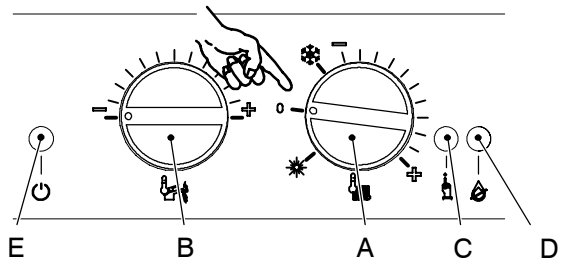

Fig. 22
- 1 Turn the boiler OFF positioning the function selector knob A as indicated in Fig. 22.